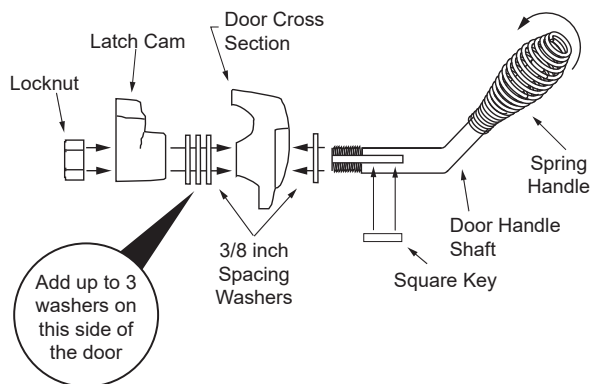

Figure 25.2 - Formed Door Handle with Spring
3. Add up to three washer as shown in **Figure 25.2** on the inside of the door.
7. Install handle turning in a counter-clockwise motion to desired location on door handle rod (**Figure 25.2**).